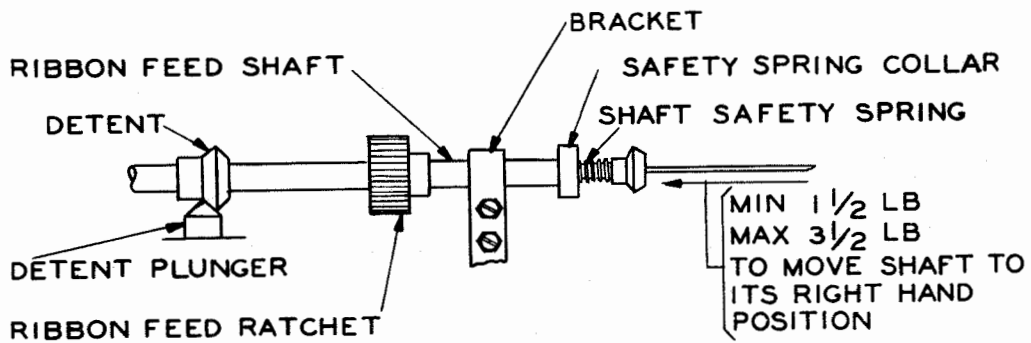

Figure 25
2.52 Ribbon-feed-shaft Detent Plunger shall press against the detent so that it requires a force of minimum 1-1/2 pound, maximum 3-1/2 pound to push the detent over the plunger when the ribbon-feed and check pawls are held clear of the ratchet. (See Figure 25.)